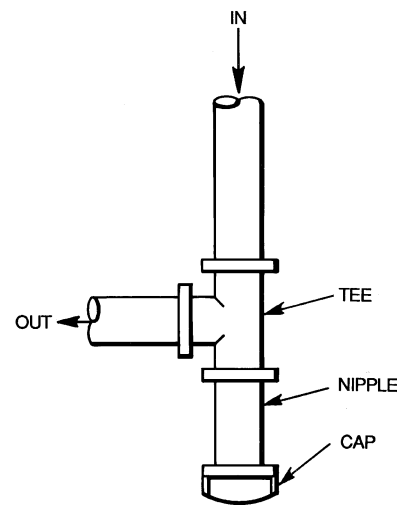

Fig. 11 — Sediment Trap
4. Install sediment trap in riser leading to heating section per Fig. 11. This drip leg functions as a trap for dirt and condensate.